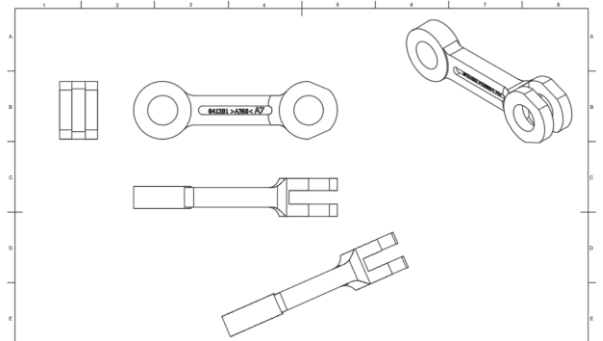

Figure 5. Apply As-built Revolute joint
5. Use Create > Auxiliary to create an auxiliary view angled from the bottom right edge of the initial base view as shown in Figure 5.